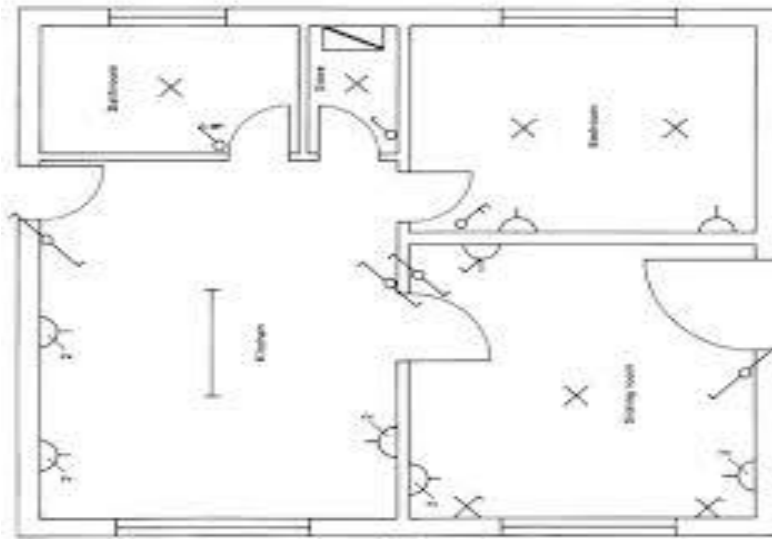

Figure 1
d) Read the electrical layout plan Figure 1 below and answer the questions that follow: